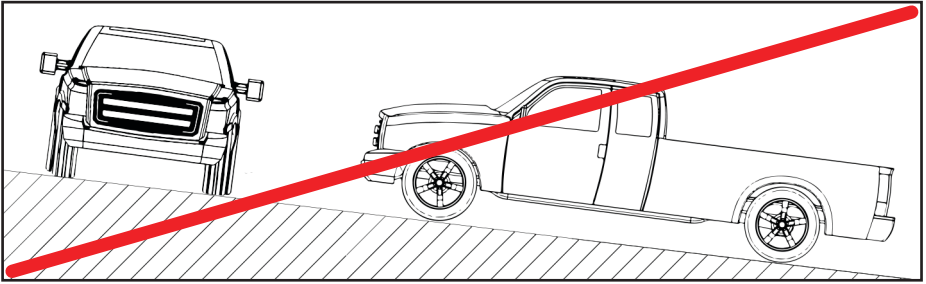

Figure 14 — Do not exceed 20° grade
- Ensure the vehicle the system is mounted to is not parked on grades exceeding 20° as this will affect lubrication and air/oil separation (Figure 14).